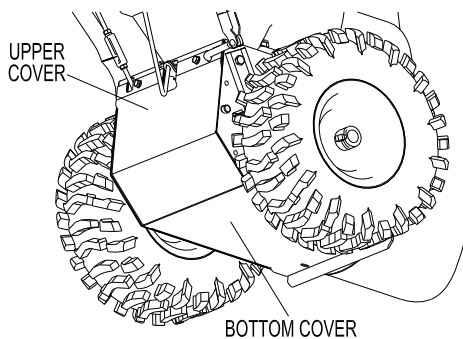

FIG 20
6.5.3 Remove the upper and the bottom cover. (FIG 20)
6.8.3 Remove the upper and the bottom cover. (FIG 20)